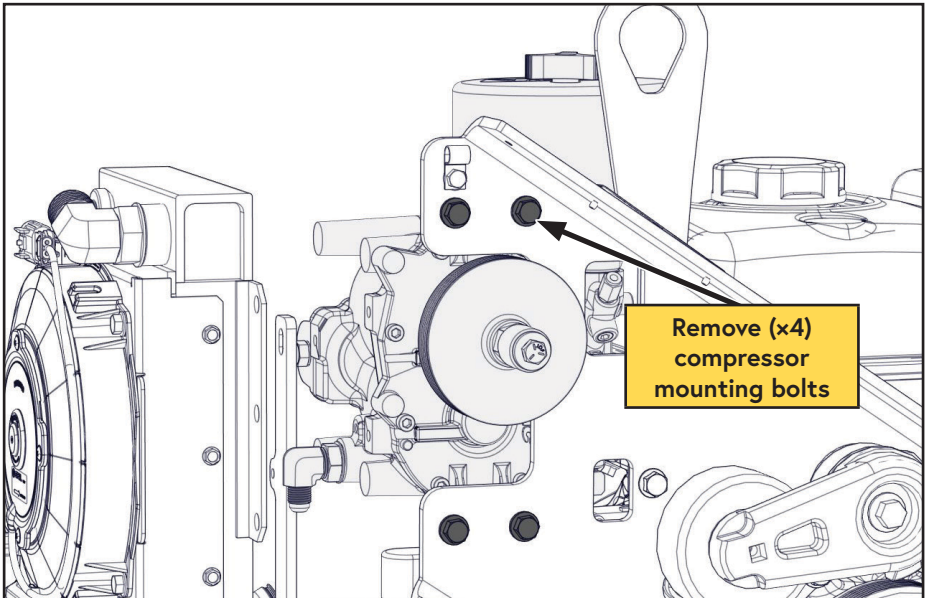

Figure 69 — Remove compressor
- ☐ Remove the (x4) bolts securing the compressor to the belt guard (Figure 69).